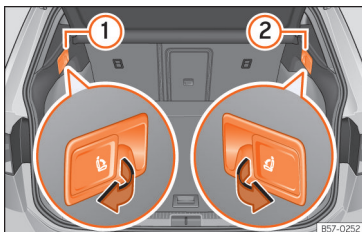

Fig. 124 In the luggage compartment: levers for the backrest remote release mechanism* of the left ① and right ② parts of the rear backrest.
- Pull the unlocking lever »» **Fig. 124** of the part of the backrest to fold down.